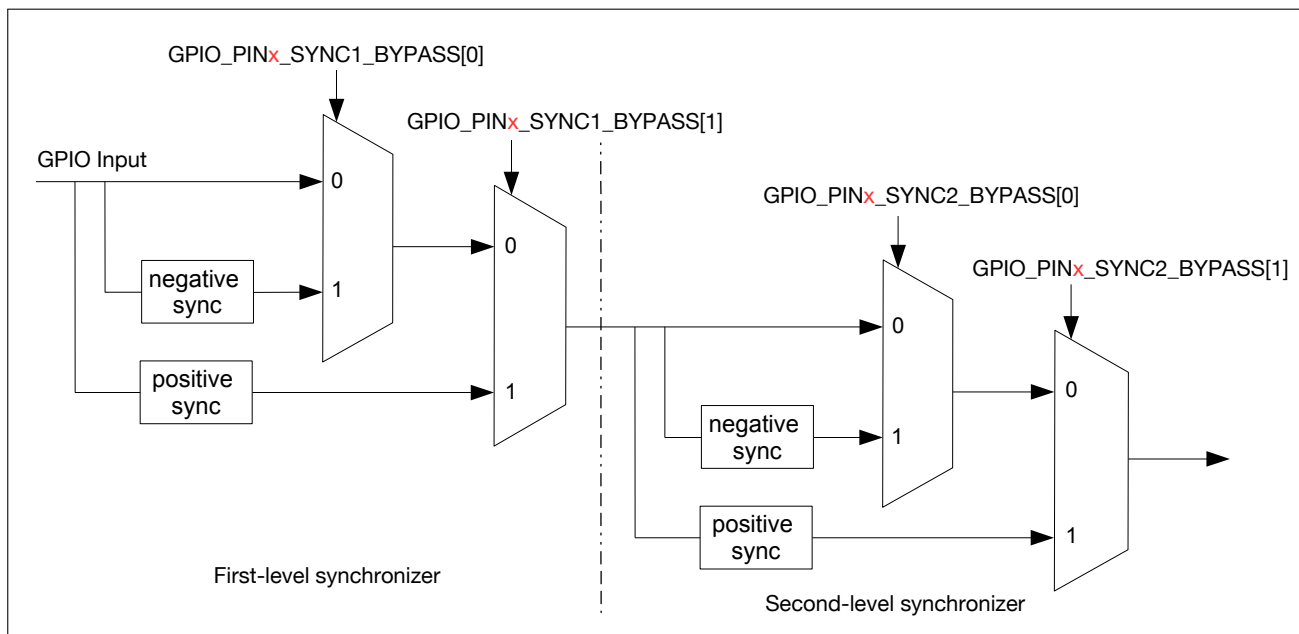

Figure 7-3. GPIO Input Synchronized on Rising Edge or on Falling Edge of IO MUX Operating Clock
Figure 7-3 shows the functionality of GPIO SYNC. In the figure, negative sync and positive sync mean GPIO input is synchronized on falling edge and on rising edge of IO MUX operating clock respectively.
The synchronization function is disabled by default by the synchronizer, i.e., `GPIO_PINx_SYNC1/2_BYPASS [1:0] = 0`. But when an asynchronous peripheral signal is connected to the pin, the signal should be synchronized by the two-level synchronizer (i.e., the first-level synchronizer and the second-level synchronizer as shown in Figure 7-3) to lower the probability of causing metastability. For more information, see Step 4 in the following section.
- Set `GPIO_PIN x _SYNC1_BYPASS` to enable input signal synchronized on rising edge or on falling edge in the first-level synchronization, see Figure 7-3.
- Set `GPIO_PIN x _SYNC2_BYPASS` to enable input signal synchronized on rising edge or on falling edge in the second-level synchronization, see Figure 7-3.